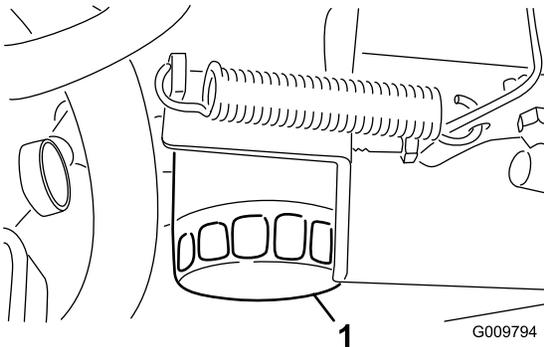

Figure 48
3. Remove the oil filter (Figure 48).